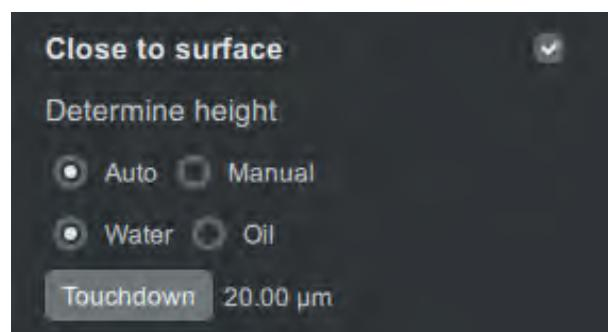

Figure 11.9.2: Feature to take surface effects into account in the force calibration in Bluelake.
- b. If working close to the flowcell surface (ratio of height to bead diameter < 5), choose **Close to surface** to get to height determination (see Figure 11.9.2). To determine the height, choose **Auto**, check the correct microscope objective type and press **Touchdown** to start height determination. If the ratio of the determined height and the bead diameter is smaller than 0.75, calibrating with checked **Hydrodynamic correction** is not possible, so uncheck it. If available, choose **Active calibration** and press **Measure** to calibrate. Note that height determination requires a bead in Trap #1.